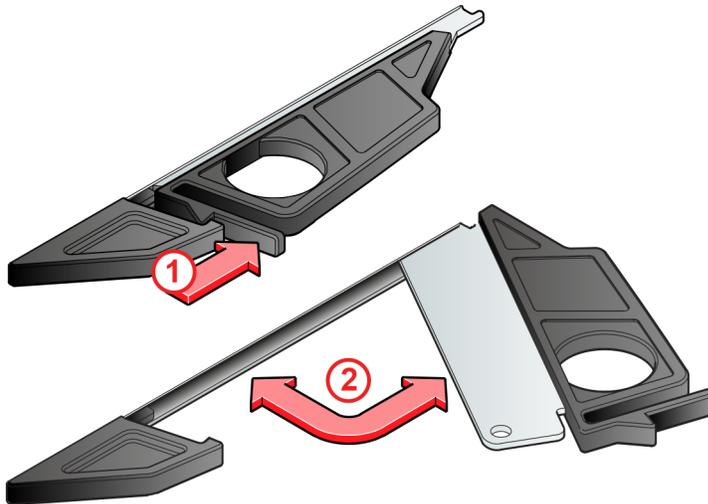

Figure 100. ESM Latch Operation
2. Pull the latch out to release the module from the enclosure (Figure 100 “ESM Latch Operation ” on page 92).